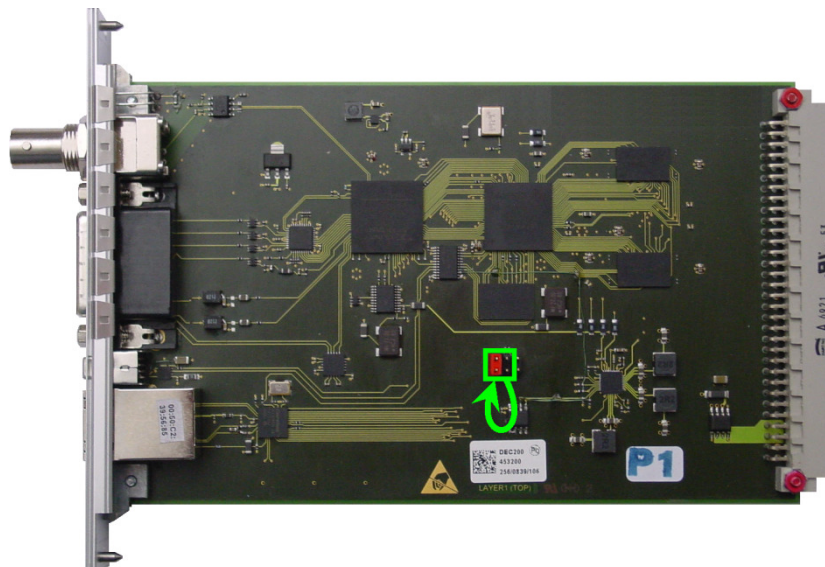
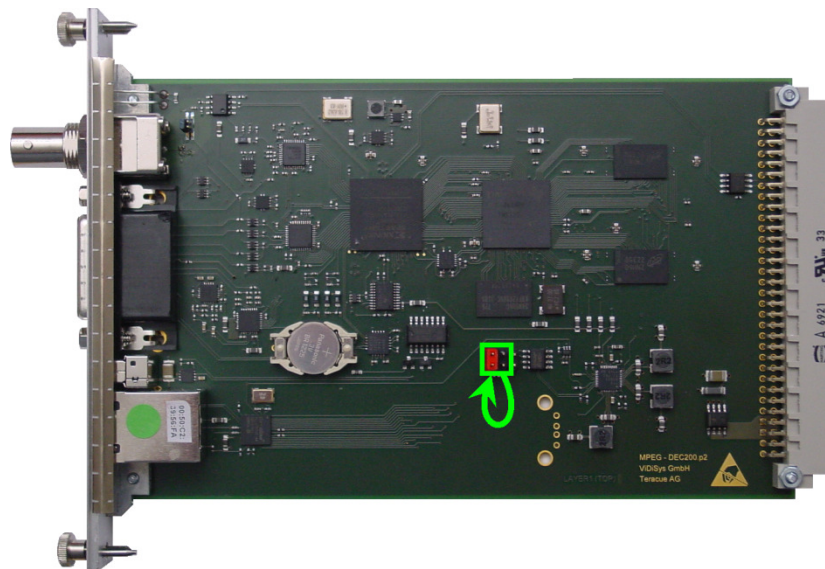

Figure 37: DEC-200™ Blade of the Hardware Revision 1
Figure 38: DEC-200™ Blade of the Hardware Revision 2
- Place the jumper now on the left pair of the black pins, see Figure 37 and Figure 38